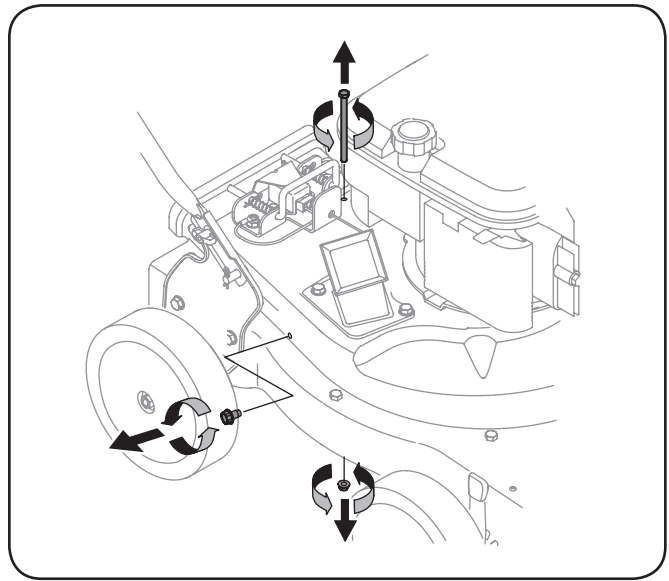

Figure 6-2
4. Remove self tapping screw on right side of unit that attaches to the flail screen. See Figure 6-2.
5. Remove hex screw on top of rear housing near mounting bracket and the flange lock nut that secures flail screen. See Figure 6-2.